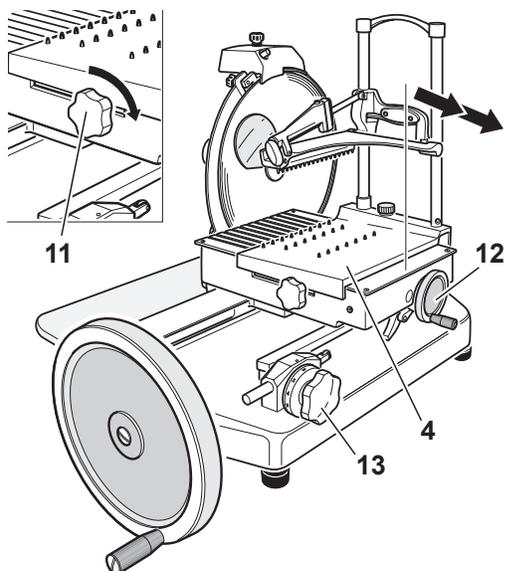

Figure 14-1
- Turn the product holder operating handwheel (12) or fast forward knob (11) clockwise to move the product holder (4) away from the knife (16) (Figure 14-1).